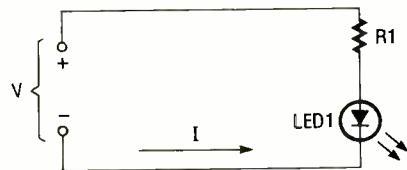

Fig. 12. A typical LED circuit contains a current-limiting resistor to prevent blowing out the unit.
Simple LED Circuits. Figure 12 shows the most basic form of LED circuit. The diode (LED1) is connected across a voltage source (V) via a series resistor (R1) such that the diode is "forward biased." That is, electron current (I) will flow from the cathode (N material) to the anode (P material). The series resistor (R1) is used to limit the current through the diode to a safe level. The value of the resistor is: